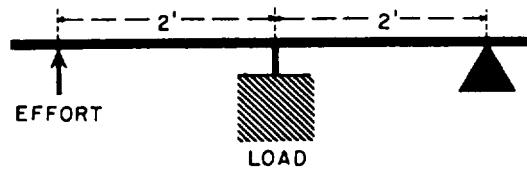

Figure 1H
- 1-25. The mechanical advantage of the lever in figure 1H is